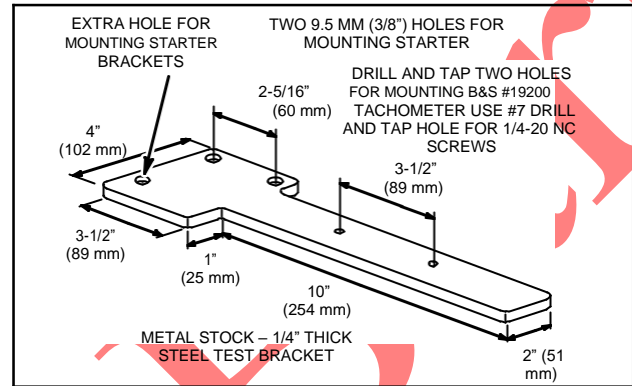
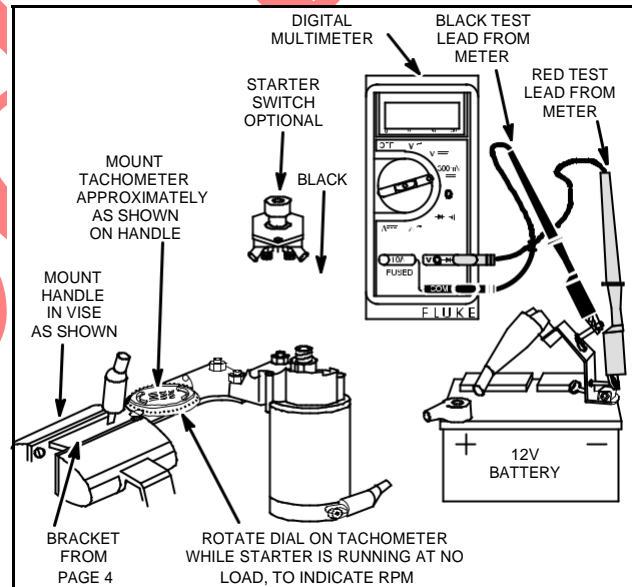

Fig. 9 – Starter Motor Test Bracket
Fig. 10 – Testing 12 Volt Starter Motor
A starter motor test bracket may be made as shown in Fig. 9. Tachometer may be mounted to test bracket.
Remove blower housing and flywheel from engine. Refer to Section 2 for flywheel removal procedure. Remove two (2) starter motor mounting screws. Assemble starter motor to test bracket (Fig. 9), and clamp test bracket in vise, Fig. 10.
1. The DC Shunt **MUST** be installed on the **negative** (–) battery terminal as shown in Fig. 10.